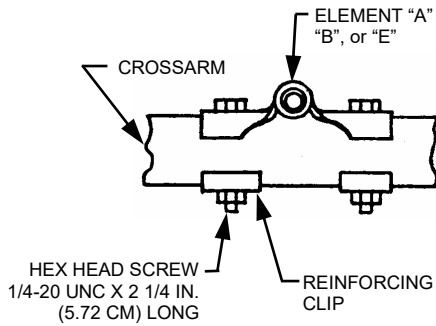

FIGURE 3
- The parasitic elements are mounted onto the crossarm at its match-marked location with 1/4-20 x 2 1/4" long hex head screws, as shown in Figure 3. Use a reinforcing clip at each screw location.